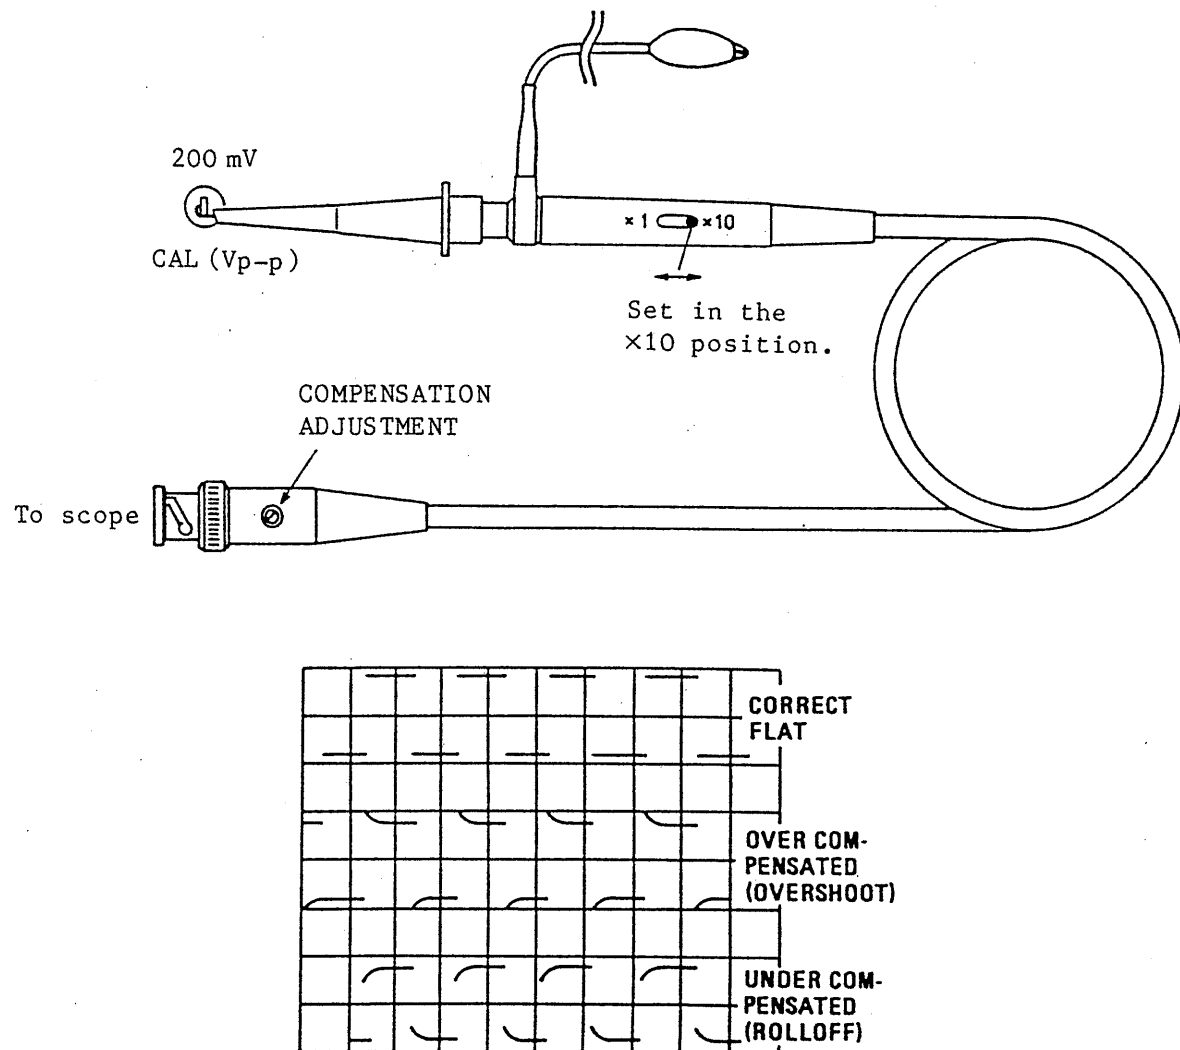

Figure 5-11. PROBE COMPENSATION
e. Adjust probe compensation (through hole in compensation box) for best flat top display. Refer to Figure 5-11.